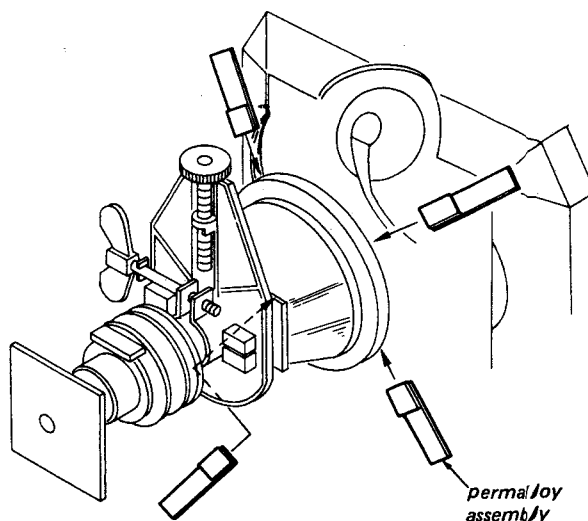

Fig. 5-18.
- When misconvergence is observed at a corner; Insert and paste the permalloy assembly between the deflection yoke and funnel corresponding to the corner where the misconvergence is observed as shown in Fig. 5-18.